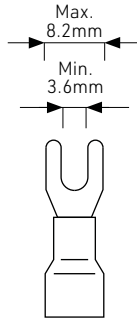

Figure 4: Fork Terminal Dimensions
Up to 14 loads may be connected. Loads are attached using female spade Quick Connects (QC). See *Figure 4: Quick Connect Dimensions*. All load negative returns must be connected directly to the BatteryPlus35-II negative terminals only.